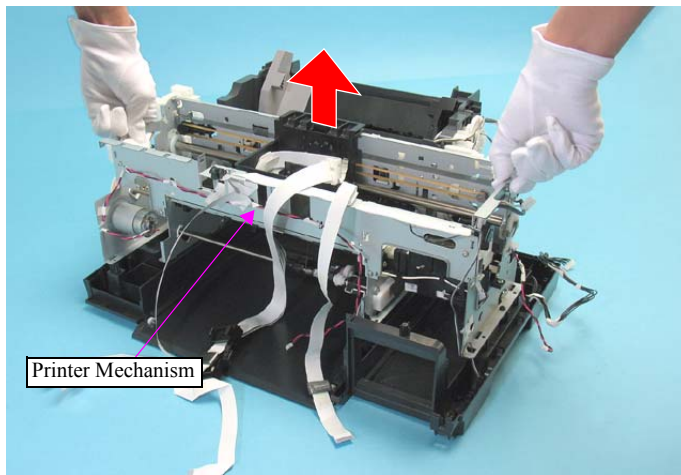

Figure 4-108. Removing the Lower Housing (4)
- To avoid deforming the frame, hold the Printer Mechanism by the positions shown in *Figure.4-108* to remove it upward.